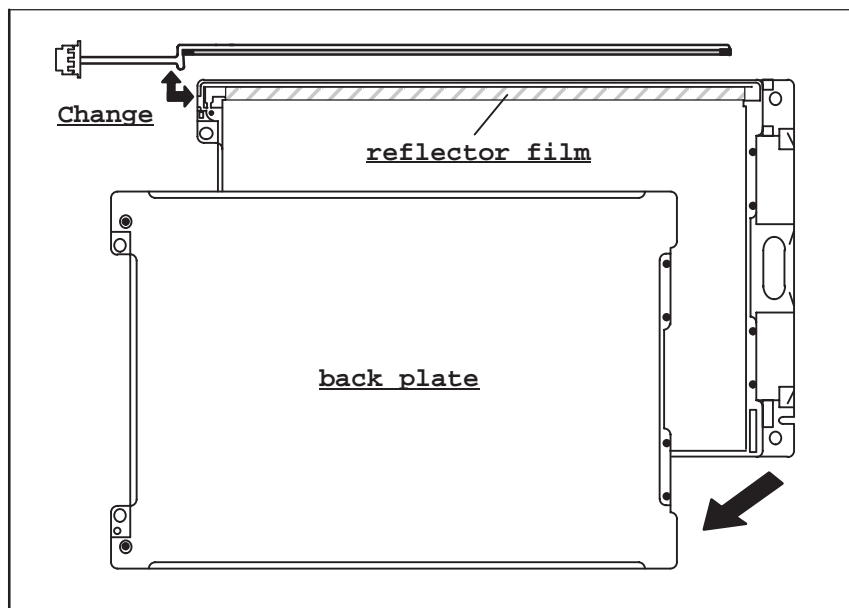

Figure 1-16 Removing the Tube
- Disassemble the rear panel of the display as shown in Figure 1-16.